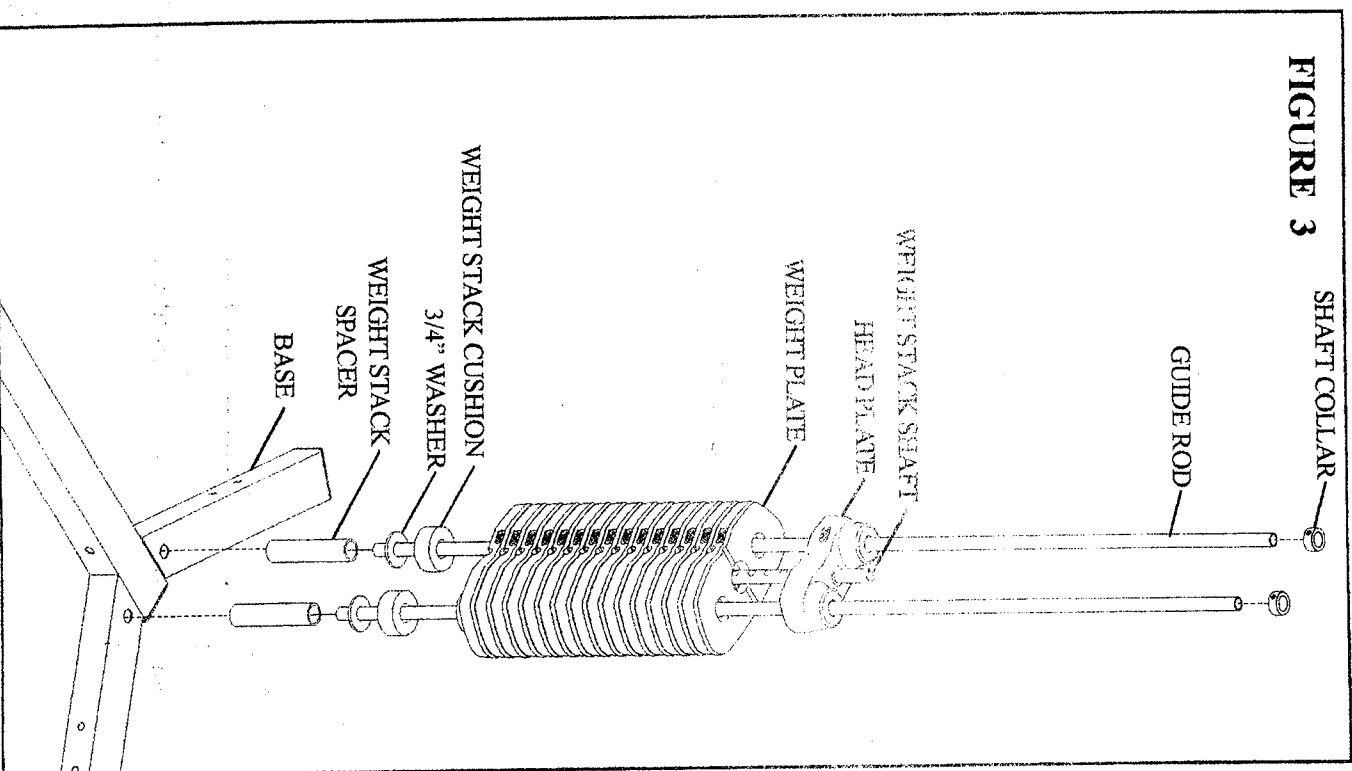

**FIGURE 2**
- Unscrew the WEIGHT STACK CABLE from the 15 HOLE WEIGHT STACK SHAFT as shown in FIGURE 2.